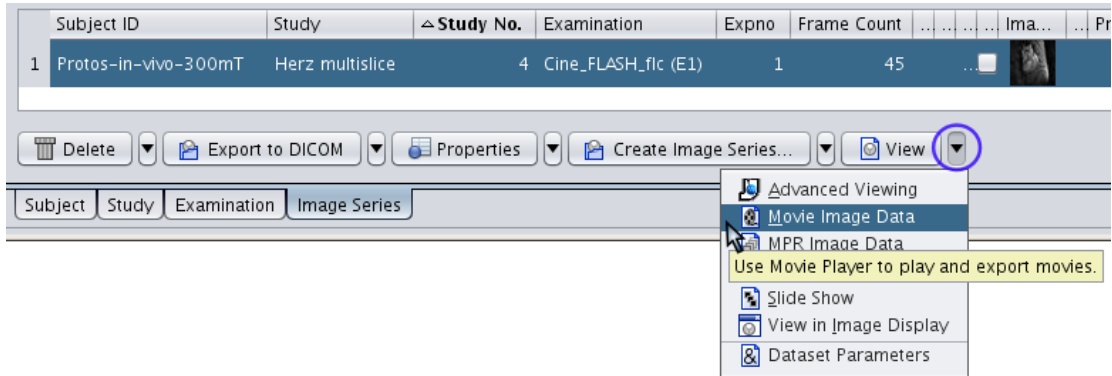

Figure 1.124: Start Movie Player from Dataset Browser
2. Click the black triangle on the right of the button **View** (see Figure 1.124 [▶ 148]).